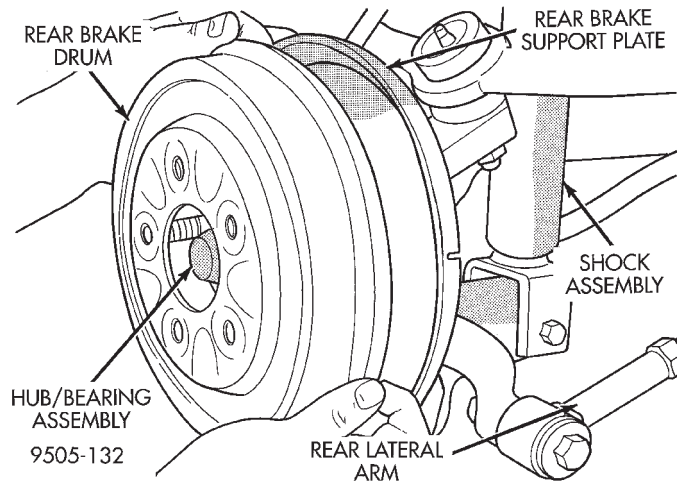

Fig. 107 Rear Brake Drum Assembly
(5) Remove rear brake drum to hub/bearing retaining nuts (if equipped). Then remove rear brake drum from hub and bearing assembly (Fig. 107).